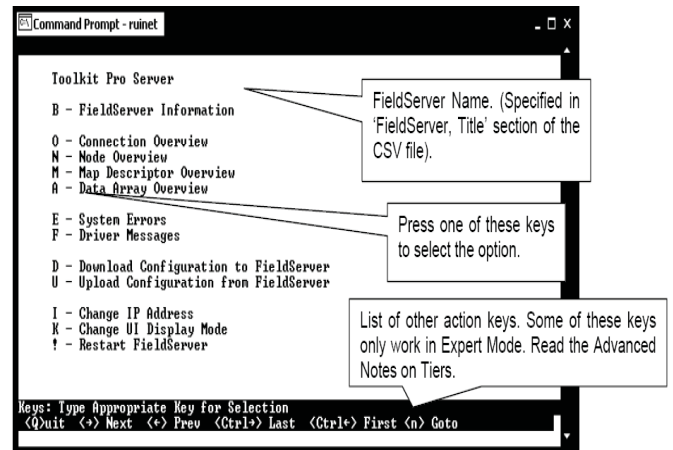

Figure 11: RUINET PT-Link II Main Menu
6.) Once connected, you will see the *RUINET Main Menu* (Figure 11). Unless you need to make changes to the config.csv file (steps 7 through 15), you are now ready to send and receive files to and from the PT-Link.